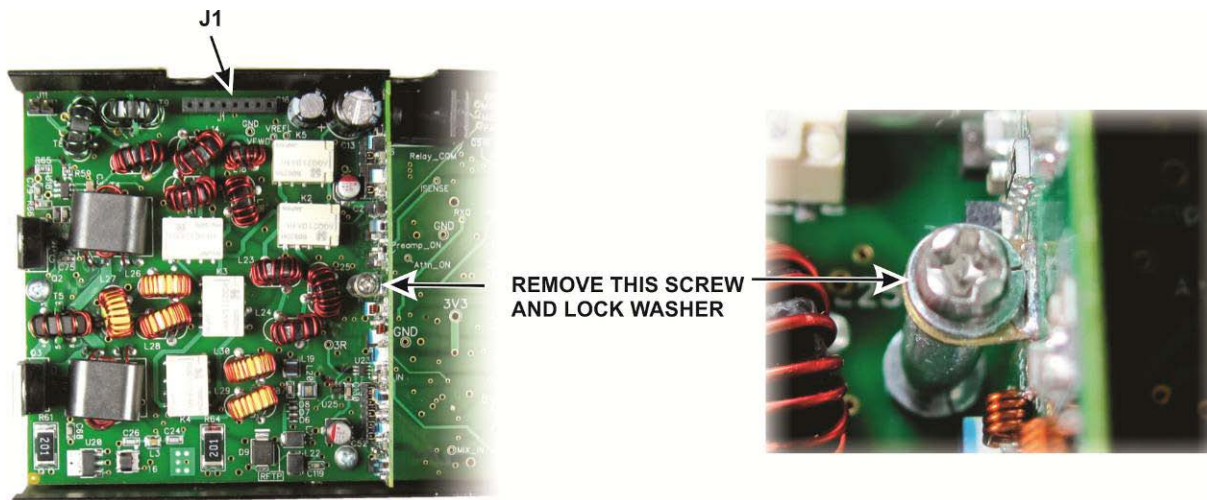

Figure 4. Removing Retaining Screw and Lock Washer.
□ Remove the screw and lock washer shown in Figure 4. Note that a tab held by the screw holds the adjacent KXBPF board in place. Take care not to dislodge the KXBPF board while installing the KXAT2 board in the next step.
□ Position the KXAT2 board as shown over the area of the KX2 RF module between the KXBPF board and then end. Connector J1 on the KXAT2 board plugs into J1 on the RF module shown in Figure 4. When J1 is properly mated the hole for the screw and washer will be aligned over the spacer.